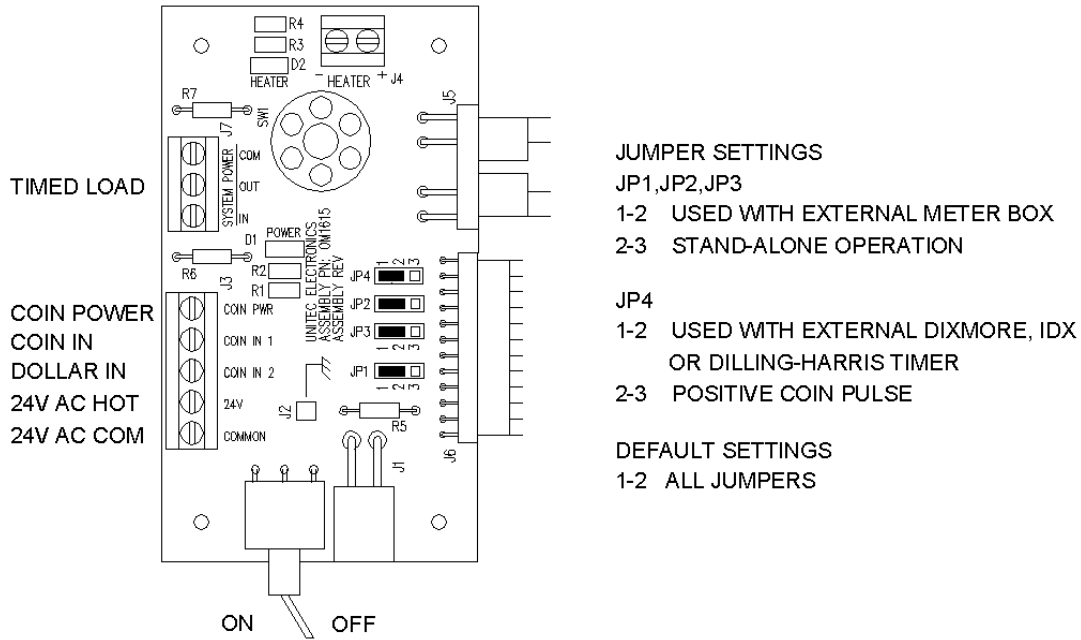
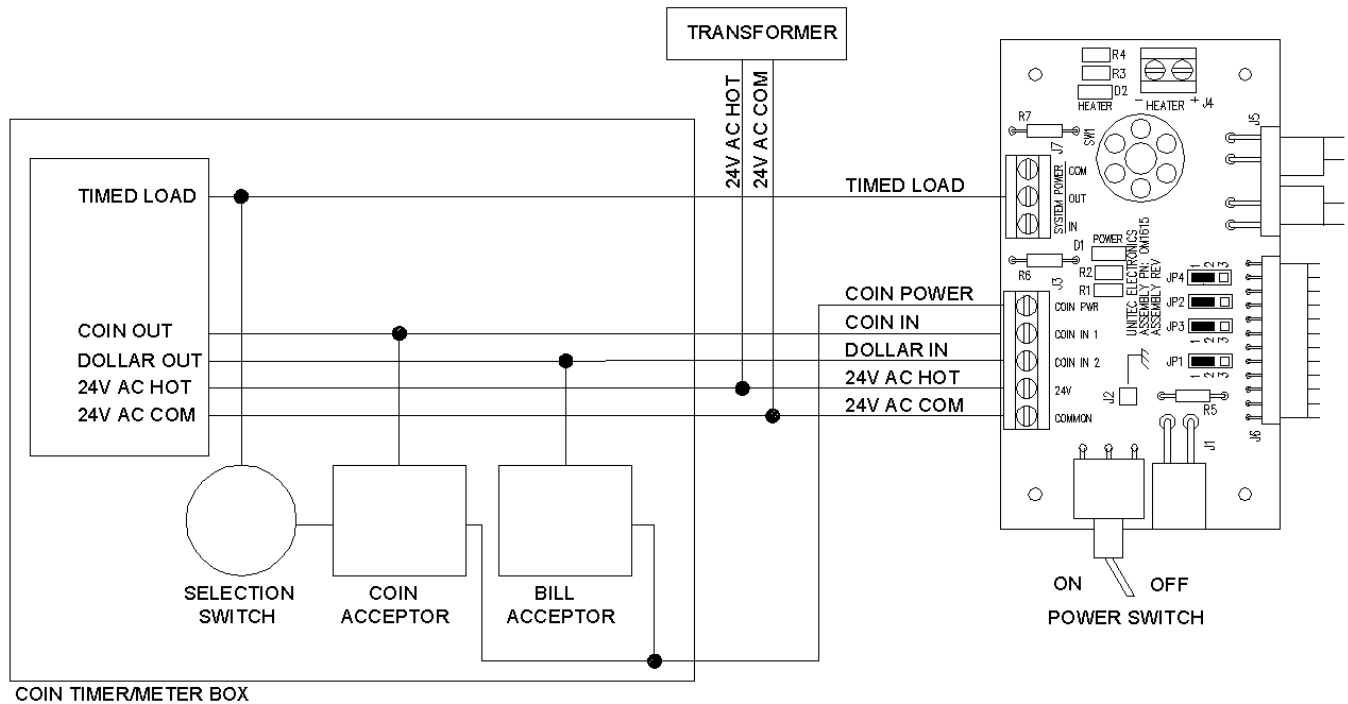

Figure 2. WashPay Card Terminal Wiring
Figure 3. Coin Timer/Meter Box to Card Terminal Wiring
4. Connect the timed load wiring to the 3-pin terminal block, as shown in Figure 2, Figure 3, and Table 1.
5. Connect the timer and coin/bill acceptor wiring to the 5-pin terminal block on the Card Terminal distribution board, as shown in Figure 2, Figure 3, and Table 2.